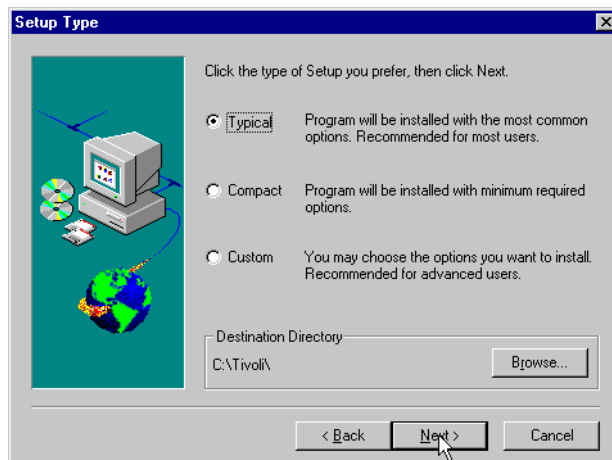

Figure 20. Setup Type
10. In the window, shown in Figure 20, select the **Typical** install option. You can use the browse button to select a different installation directory if necessary.